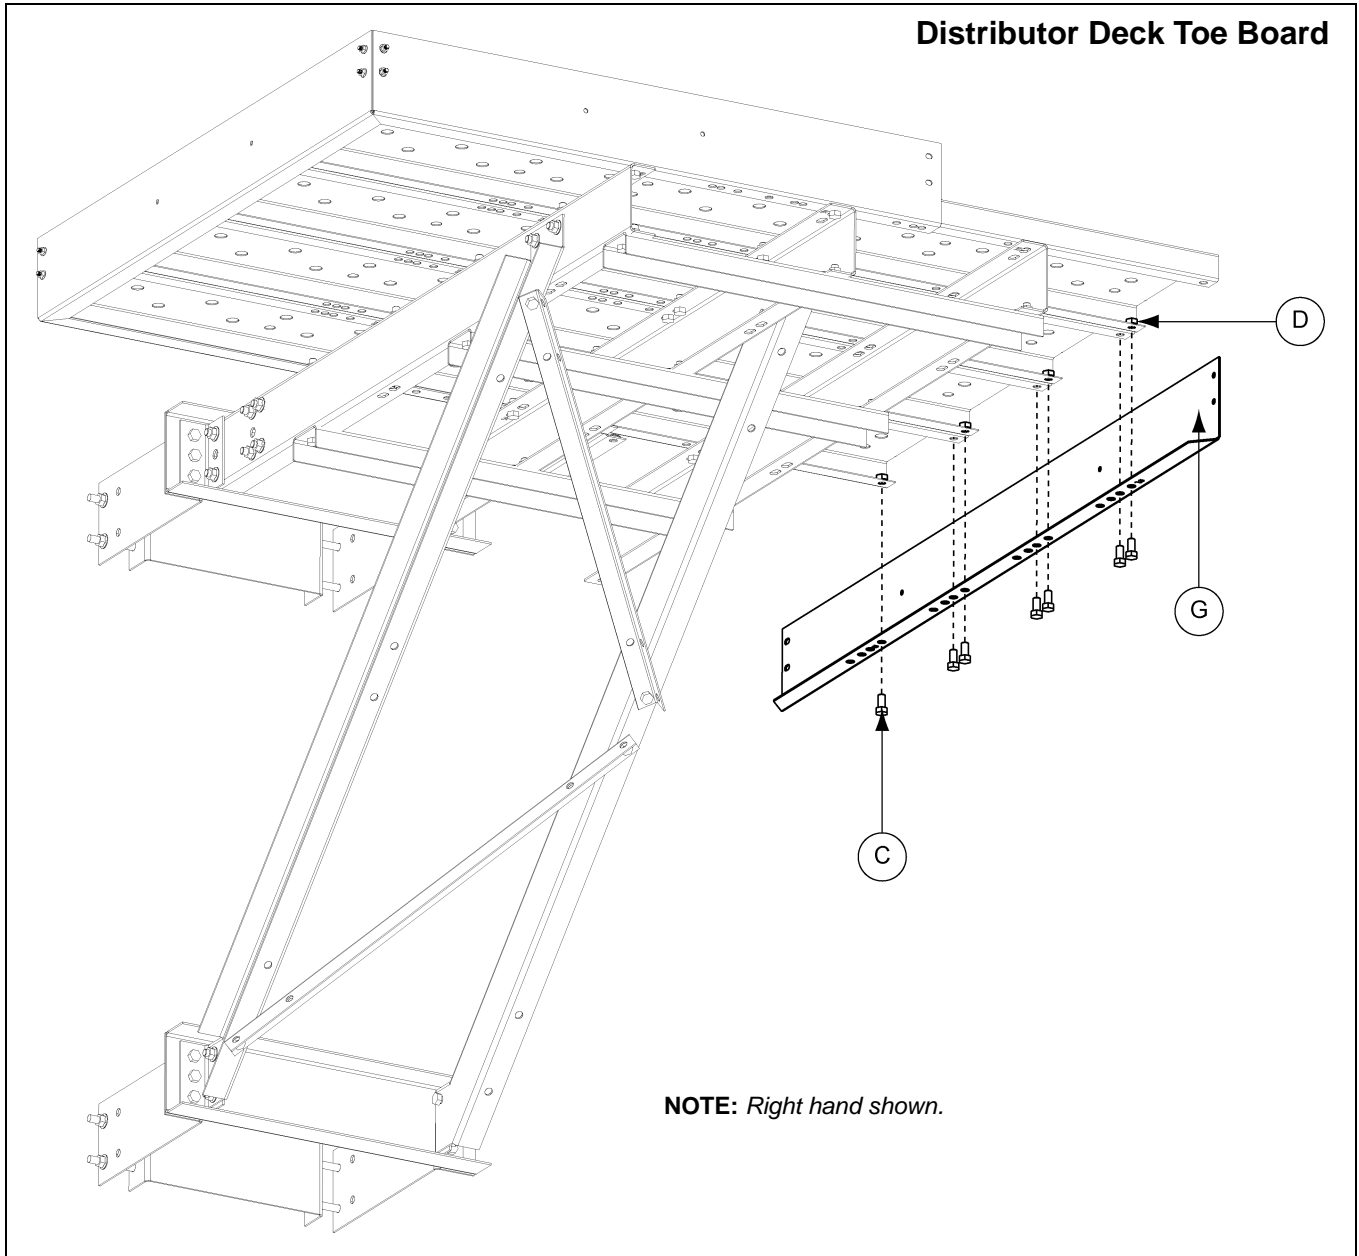

Figure 12F Distributor Platform Toe Board
3. Attach the flange of the toe board short side to the bottom of the 18" decking using two (2) 1/2" x 1" bolt (S-7935) (C) and nuts (S-8506) (D). Then attach 18" decking to the external platform support (DSP1648EPS) (B) using one 1/2" x 1" bolt (S-7935) (C) and nut (S-8506) (D). *(See Figure 12F on Page 103.)*